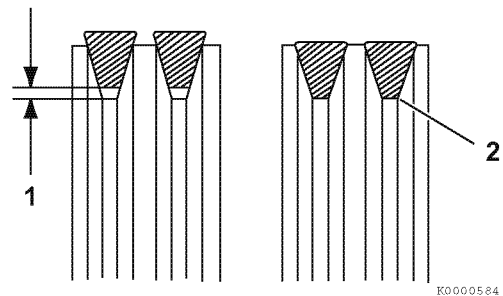

Figure 8-15
5. Inspect the condition of the V-belt. There must be clearance (Figure 8-15, (1)) between the V-belt and the bottom of the pulley groove. If there is no clearance (Figure 8-15, (2)) between the V-belt and the bottom of the pulley groove, replace the V-belt.